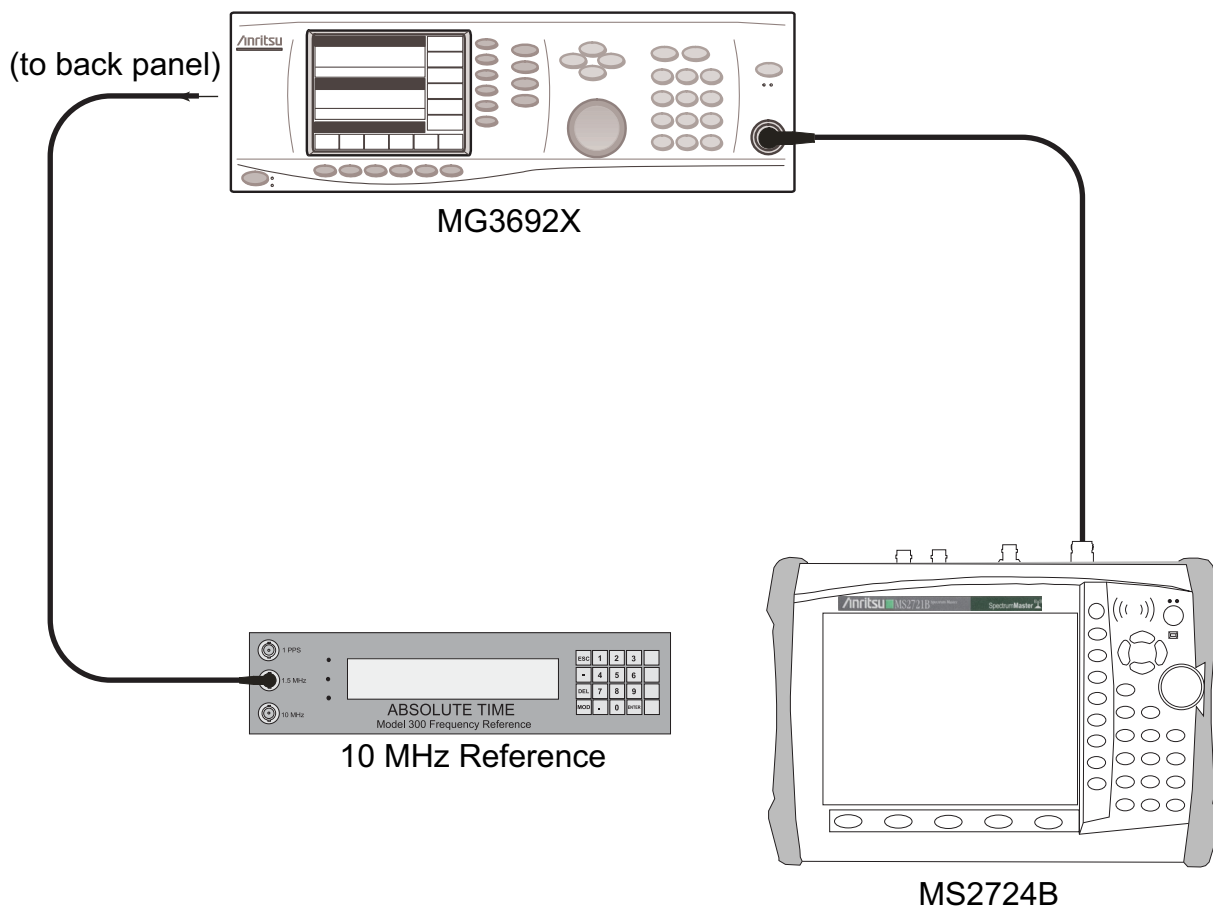

Figure 2-17. Frequency Accuracy Verification by Synthesized Signal Generator
2. Connect the output of the Synthesized Signal Generator to the Spectrum Analyzer RF In of the MS2723B or MS2724B, as shown in Figure 2-17.